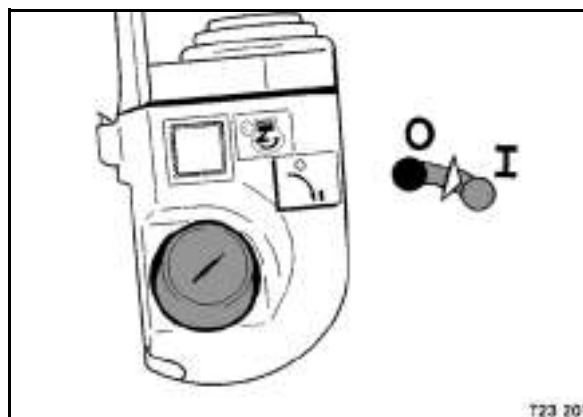

Fig. 66
- Switch on the ignition (Fig. 66).